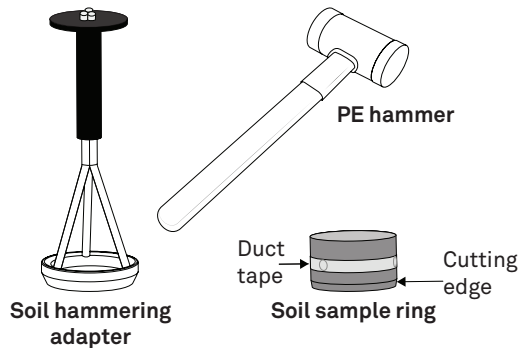

Figure 6 METER soil hammering adapter and hammer
- METER soil sample ring (Figure 6)
- METER hammering adapter (Figure 6)
- PE hammer (Figure 6)